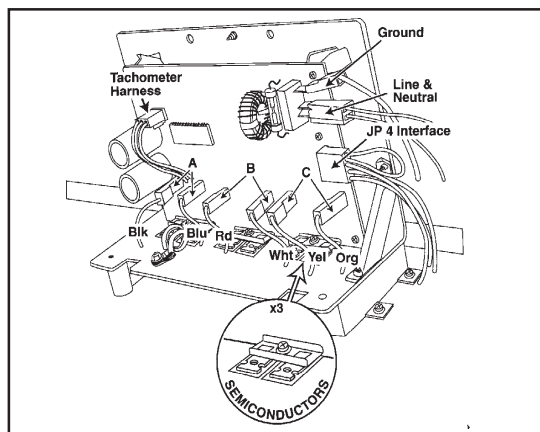

Figure 2-6
Refer to section titled **Motor Control** for board identification of A, B and C terminal/harnesses (**Figure 2-6**). Also, see the wiring schematic for harness identification.
- A. Check the 10-amp fuse located on the control board, either visually or with an ohm meter. If bad, completely replace motor control/wire harness assembly (**Figure 2-6**).
- B. If the fuse is functioning, visually check the six semiconductors on the heat sink for any damage. If damaged, replace motor control/wire harness assembly complete and check motor windings for damage (**See Drive Motor**). Replace motor if necessary(**Figure 2-6**) .
To gain access to the motor control board terminals (*Figure 2-6*):
6. Reconnect the ground wire, line 1 and neutral wires. Leave the JP4 connector off the board (*Figure 2-6*).